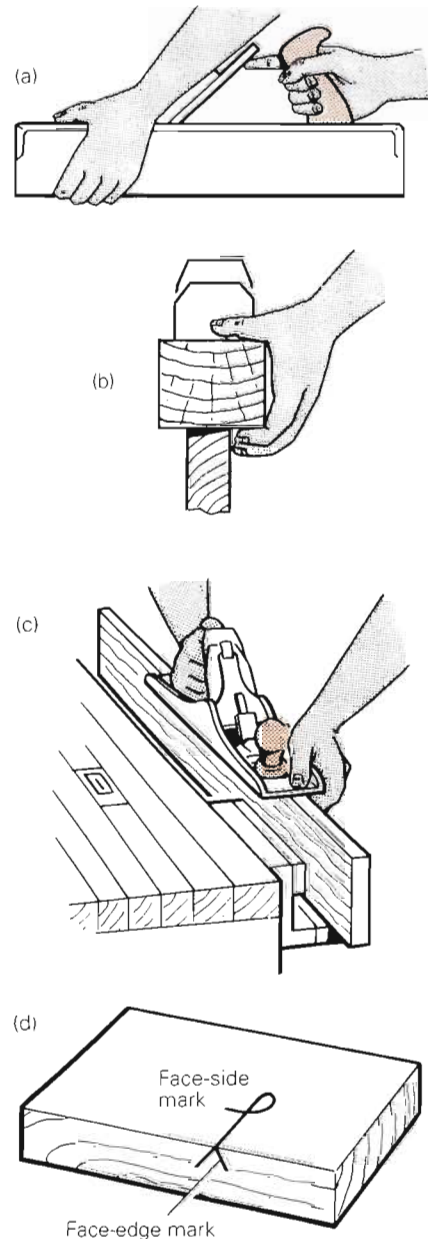

Figure 5.5 Holding and using a plane when planing an edge.
5. Choose the adjacent edge of the board, hold the board firmly in the vice with this edge upwards and plane it straight and square to the face side. This time, the fingers of the hand holding the front of the plane must rest under the plane to run on the face of the board to serve as a guide. The fore-finger of the hand holding the handle must point forward in this case to direct the plane and keep it straight (Figure 5.5).